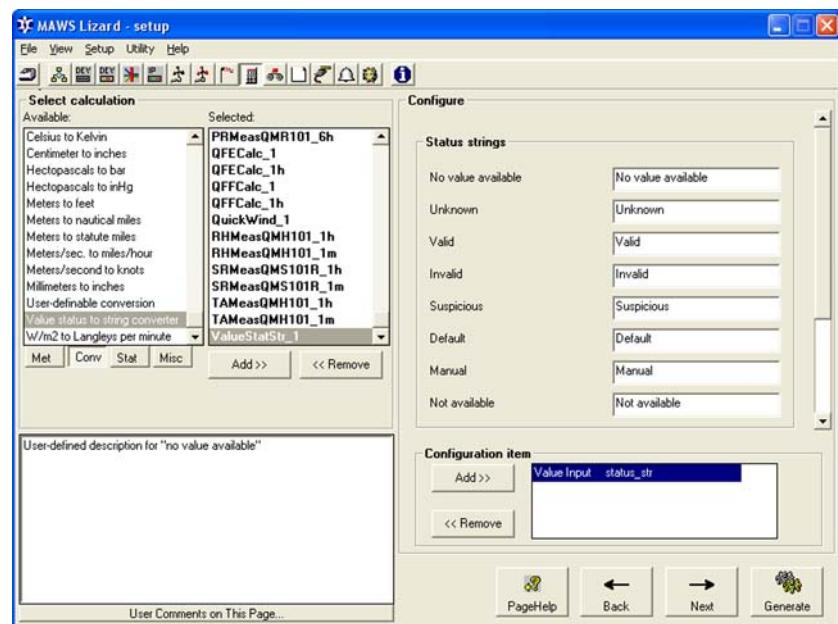

Figure 29 Calculations View: Configuring Status Strings (1/2)
The status conversion component shows the status of the data items in textual format other than the default text, for example in another language. The textual status can be included, for example, in a report. This component is configured in the **Calculations** view as shown in Figure 29 on page 81.
3. Enter the new status string to replace the default status; see Figure 29 on page 81.